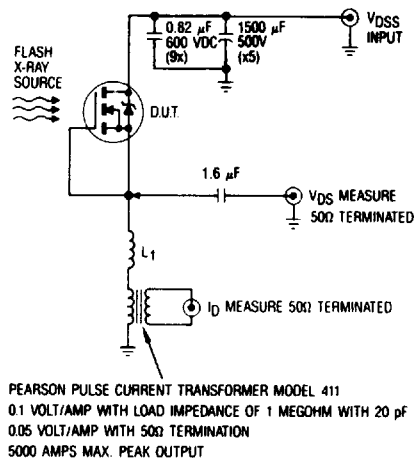

Fig. 9 — High Dose Rate (Gamma Dot) Test Circuit
High dose rate testing may be done on a special request basis, using a dose rate up to 1x10¹² Rads (Si)/Sec. Photocurrent and transient voltage waveforms are shown in Figure 7, and the recommended test circuit to be used is shown in figure 9.
- ⑨ This test is performed using a flash x-ray source operated in the e-beam mode (energy ~2.5 Mev), 30 nsec pulse. See figure 9.
- ⑩ Study sponsored by NASA. Evaluation performed at Brookhaven National Labs.
- ⑪ All Pre-Radiation and Post-Radiation test conditions are identical to facilitate direct comparison for circuit applications.